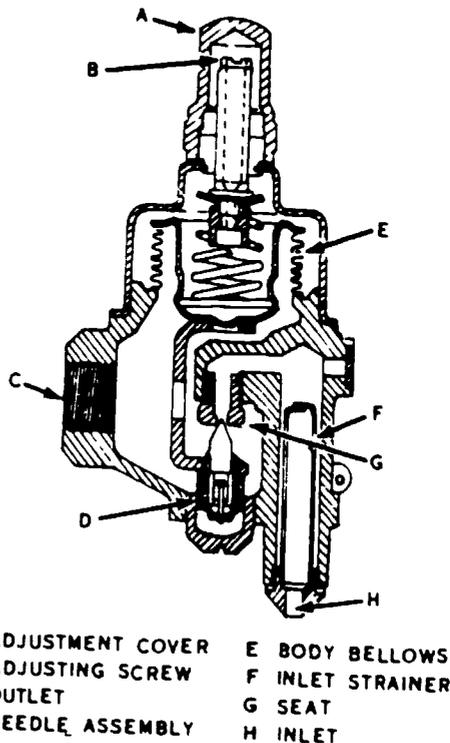

Figure 1. Automatic Expansion Valve Parts (Bellows Type)
1. Color the high-pressure liquid passages red (see figure 1).